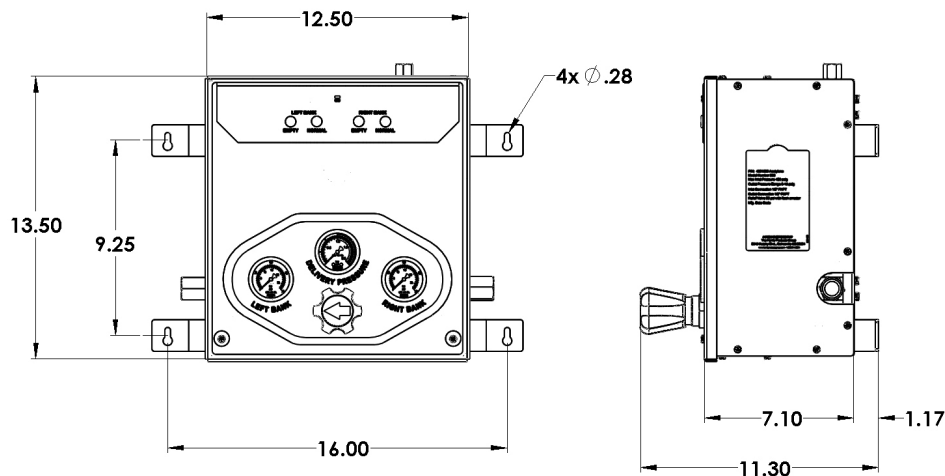

Figure 3
1. The control box should be attached to a wall or other secure structure such that the inlet connections to the box are approximately 60 inches from the floor. This dimension can be slightly higher or lower depending on the cylinder height. The mounting dimensions for the control box are shown in Figure 3. Horizontal mounting studs should be dimensioned at 16" and vertical mounting studs dimensioned at 9.25". The box does not come with mounting hardware as the customer should choose fasteners appropriate for the mounting surface.